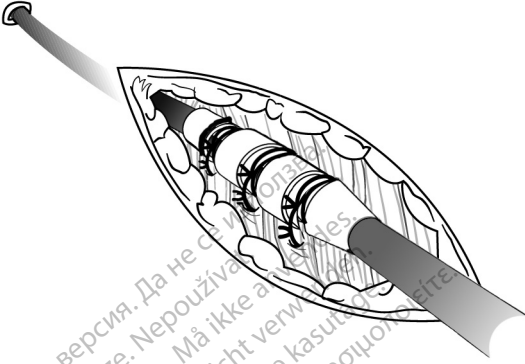

Figure 8. Example of suture sleeve, percutaneous implant technique
1. Peel back the introducer sheath and slide the suture sleeve deep into the tissue (Figure 8 Example of suture sleeve, percutaneous implant technique on page 20).